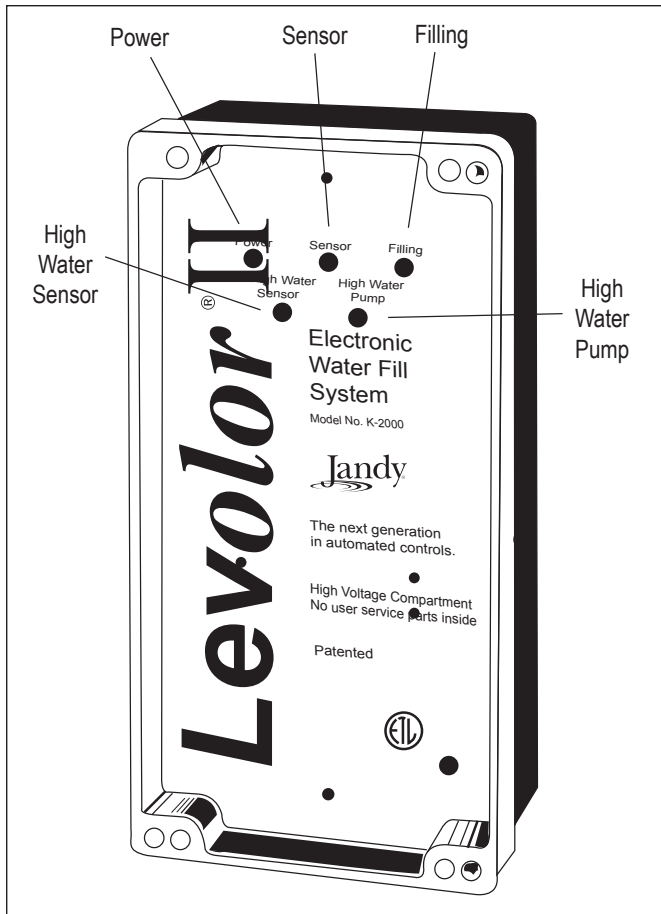

Figure 12. Controller Lights
The controller has five (5) LED lights. See Figure 12 and Table 2, LED Indicators.